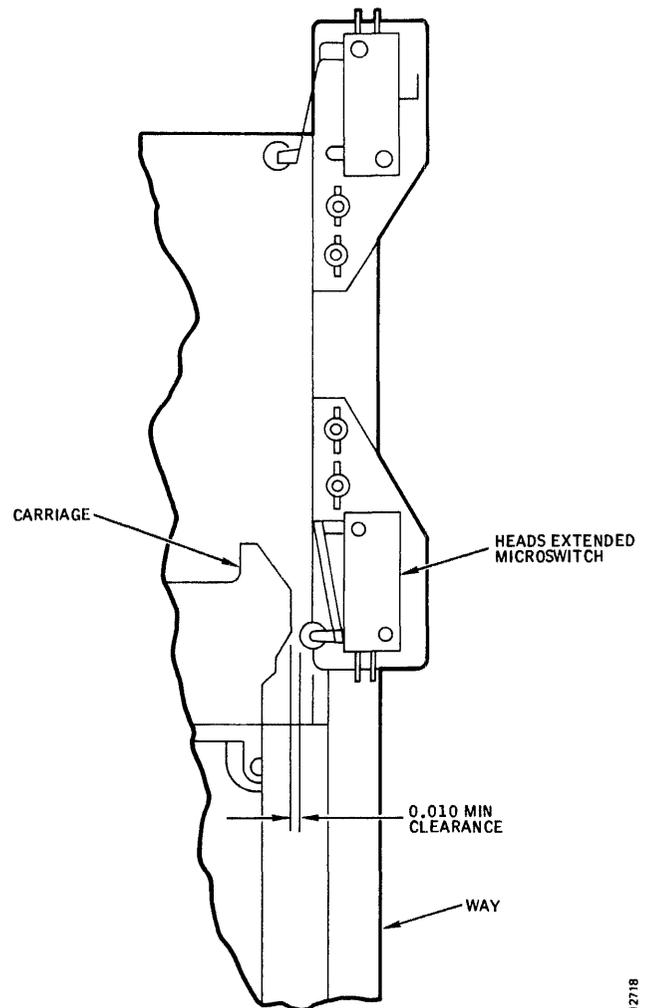

Figure 3-28. Microswitch Adjustment Clearance
7. With the head carriage fully retracted, check the operating clearance between carriage camming surface gauges between them. There must be a minimum of 0.010 inch of clearance to prevent binding. See Figure 3-28.
6. With the head carriage fully retracted, check the operating clearance between carriage camming surface and the roller on the switch arm by slipping feeler gauges between them. There must be a minimum of 0.010 inch of clearance to prevent binding. See Figure 3-28. Adjust the switch sideways, if necessary, to obtain this minimum clearance.